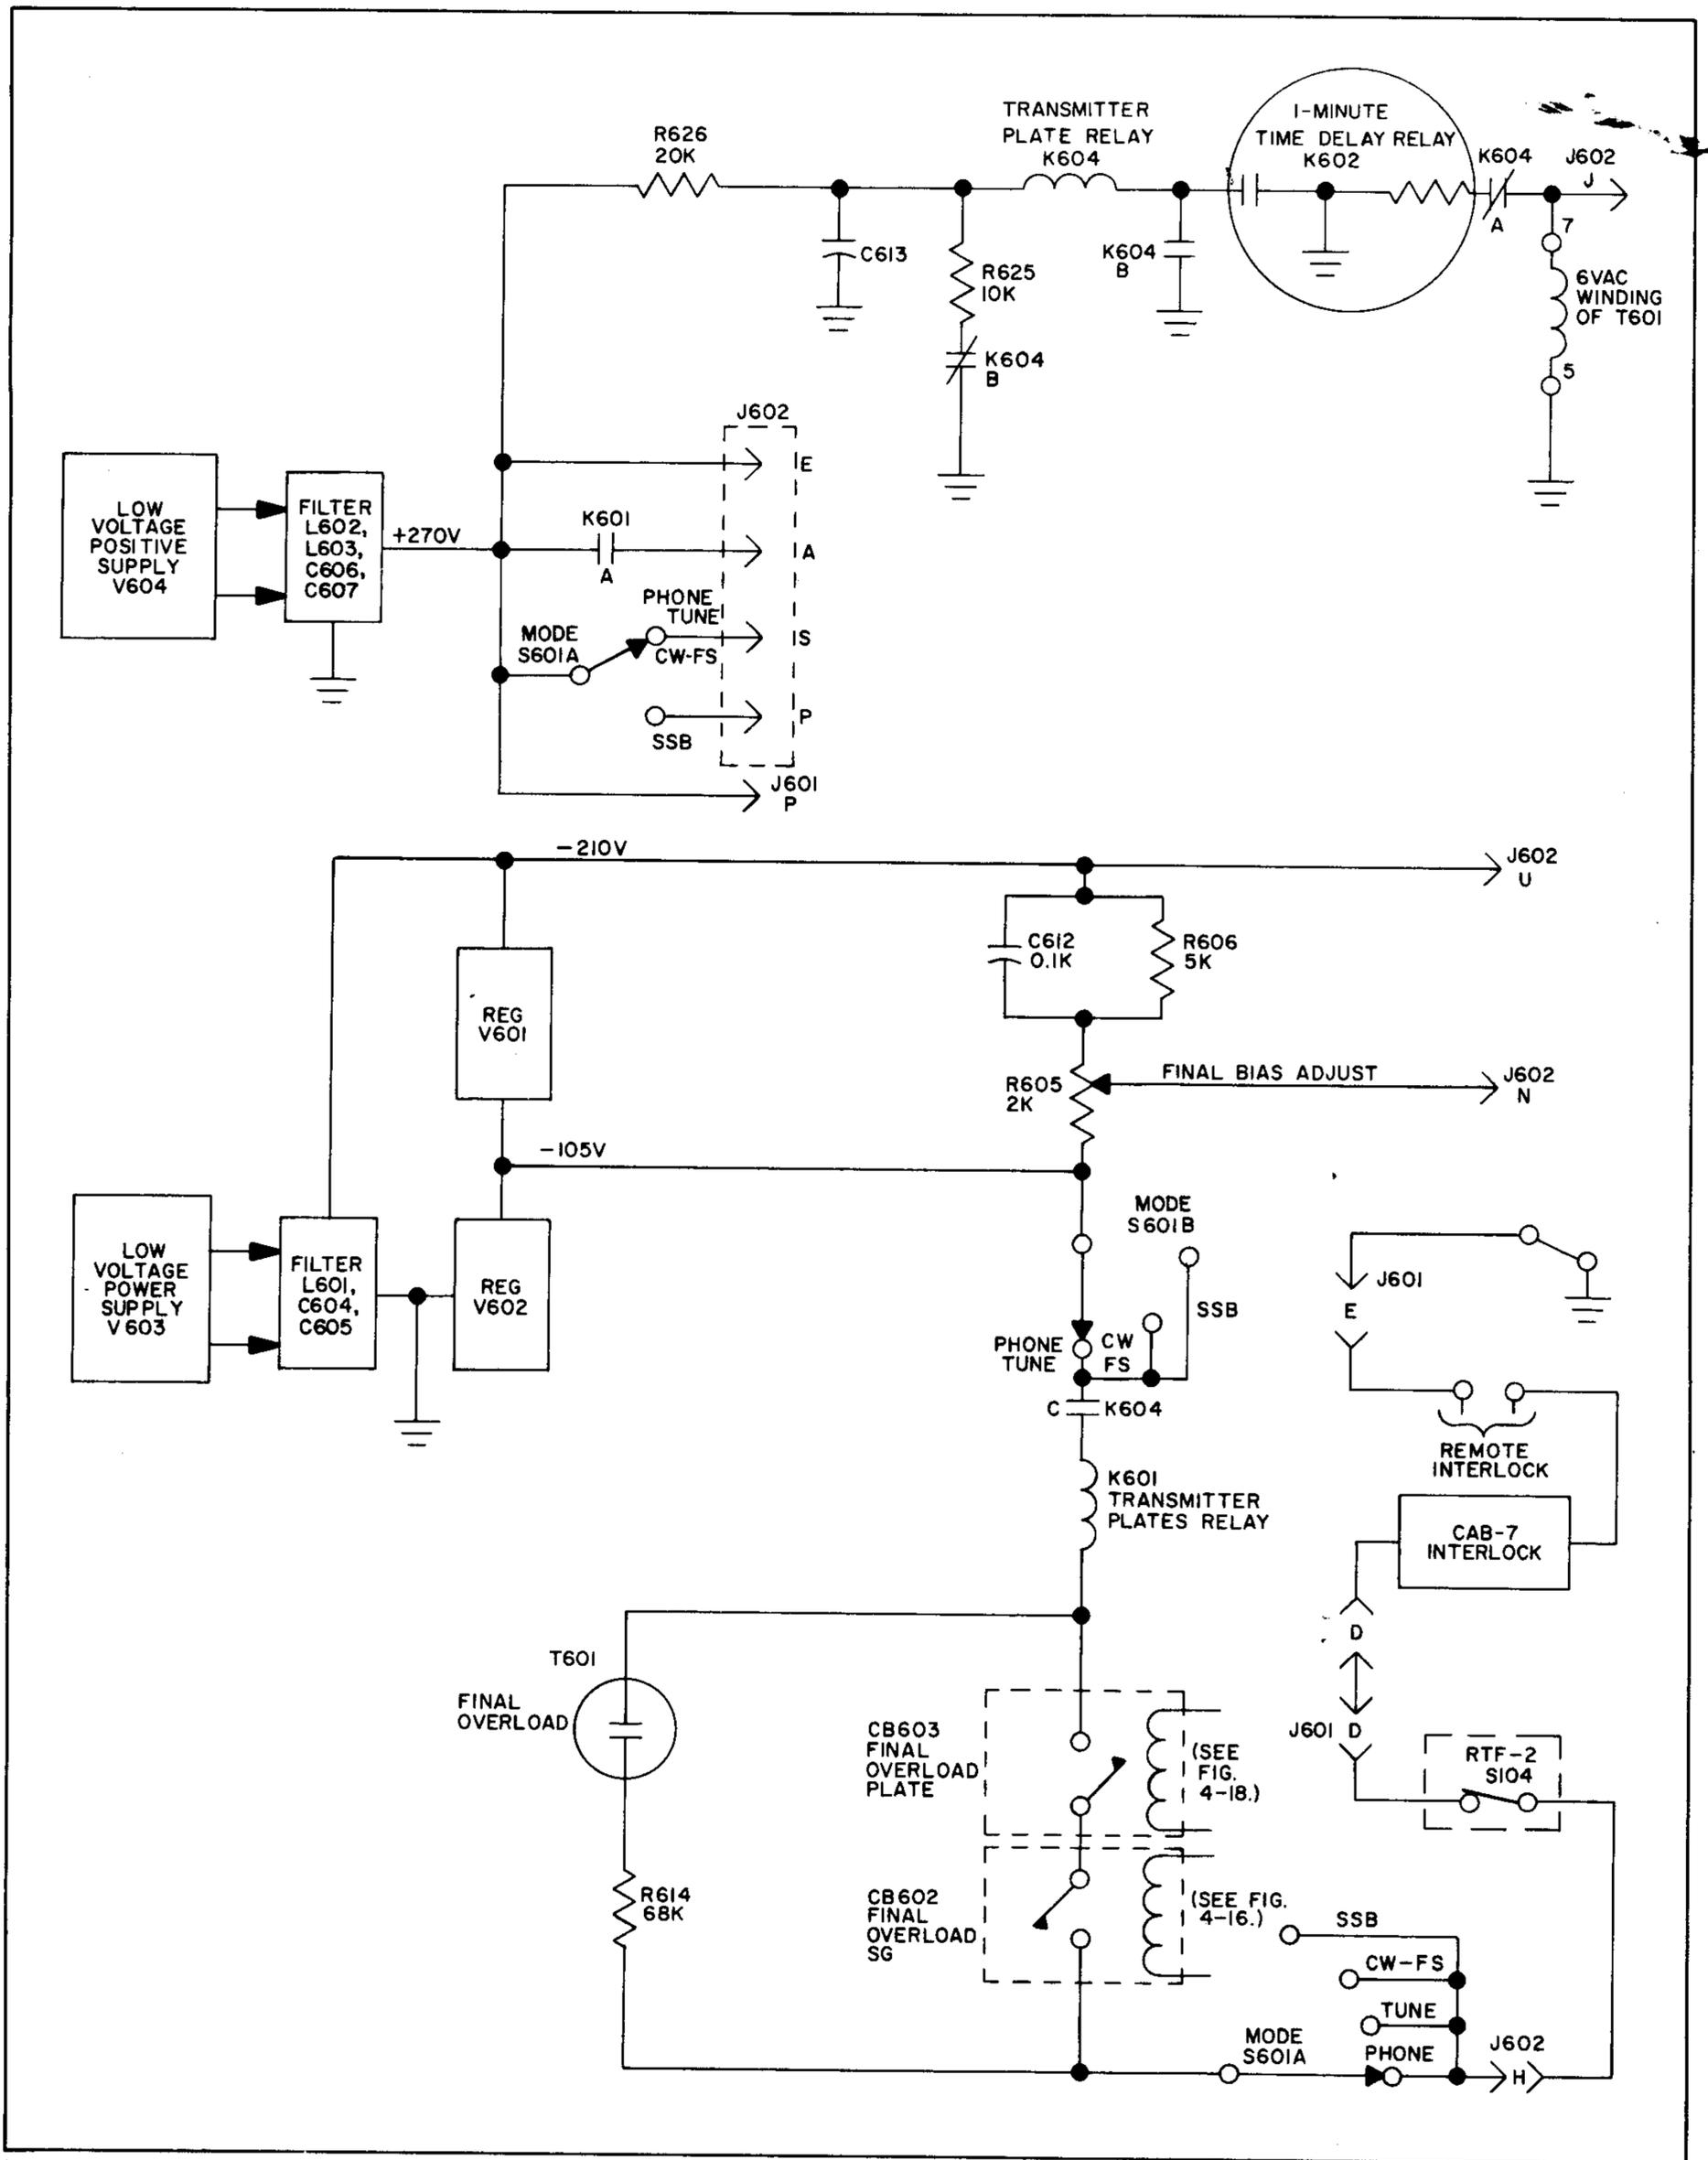

Figure 4-14. Low-Voltage Supply Distribution, Simplified Schematic Diagram
(b) The filtered output of the positive low voltage supply (figure 4-14) is applied through pin E of J602 to the grid circuit of V202 in the RTF-2 and through contacts (A) of K601 (when K601 is energized) to the plate circuits of the following tubes in the RTF-2: V201, V204, V402, V403, V404, V405, V406A, V406B, and through regulator V401 to V301 and V302. This voltage is also applied, in the RTF-2, to the cathode circuit of V202. During the first 60 seconds that primary power is applied, the low-voltage output is impressed, through normally closed contacts (B) of relay K604, across resistors R626 and R625.